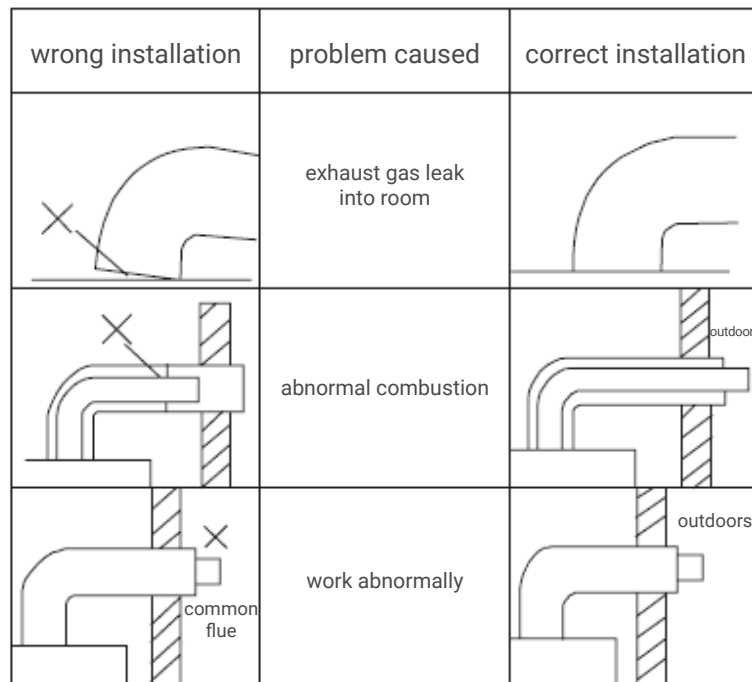

Fig.13
- The installation of the flue must be correct, otherwise the waste gases will flow back and be dangerous. (Fig. 13).